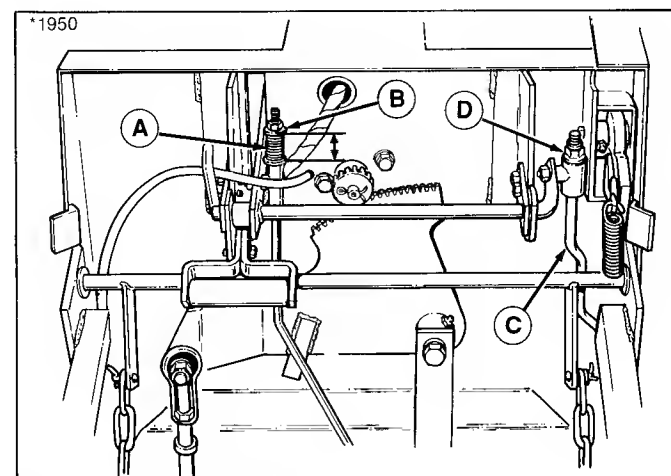

Figure 43. Gear Models
2. The clutch rod spring (A, figure 43) should measure 2" to 2-1/8" along the long side (between insides of washers). To adjust, tighten or loosen the nut (B).
3. Pull the brake rod (C) toward front as far as possible. Tighten or loosen the nut (D) to achieve a gap of 3/8 inch between rear surface of nut and the guide that rod extends through.